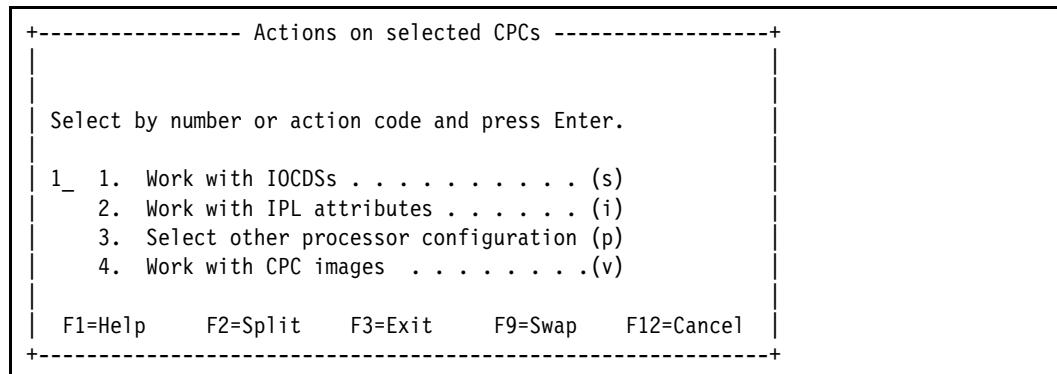

Figure 5-9 Actions on selected CPCs: Work with IOCDSS
- The Actions on selected CPCs panel opens (Figure 5-9). Select option **1. Work with IOCDSS** and press **Enter**.